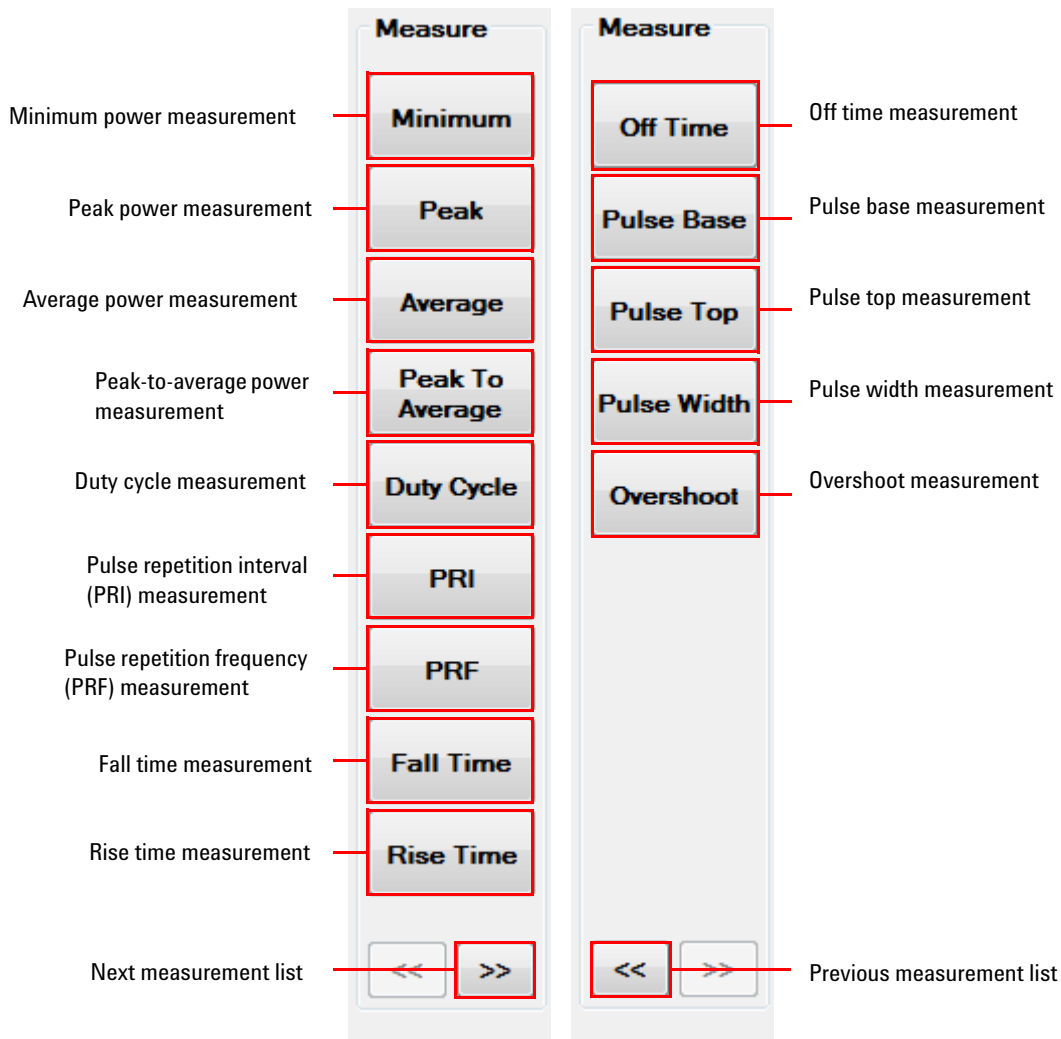

Figure 2-70 Measure functions menu on the graphical interface
The Measurement view displays the measurement results for different measurement functions. You can select the desired measurement functions to measure from the Measure menu in the graphical interface as shown in Figure 2-70.
- 1 To display the measurement results, select the measurement functions from the Measure menu on the graphical interface to measure as shown in Figure 2-70.